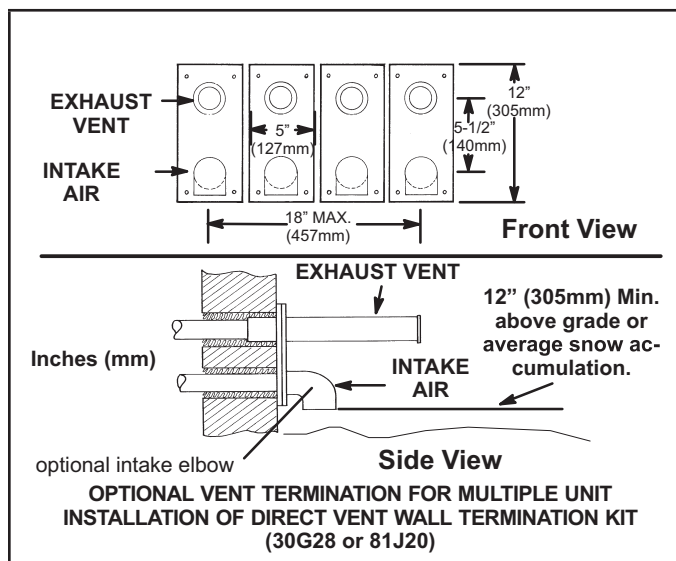

Figure 40
- 8 - A multiple furnace installation may use a group of up to four terminations assembled together horizontally, as shown in Figure 40.